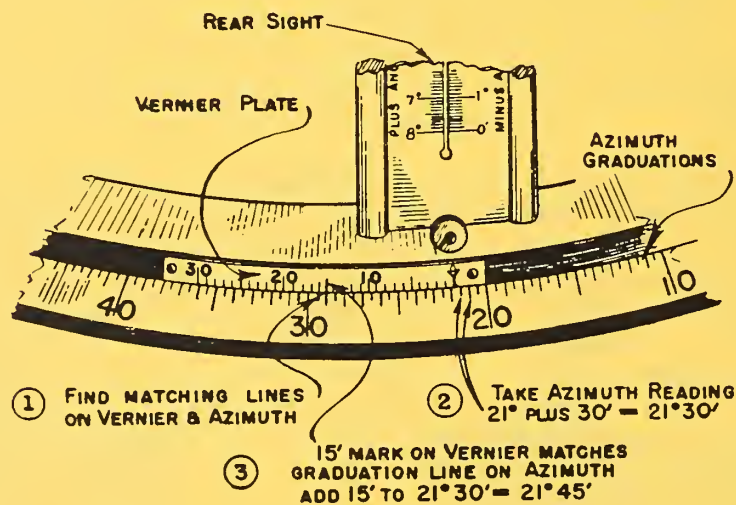

Figure 5.--Vernier plate on Osborne Firefinder.
a. How to Read Horizontal Angle or Azimuth. Proper azimuth readings are made as shown in figure 5. The vernier plate is attached to the movable sighting ring and is used to read the azimuth, not only in degrees, but in fractions of degrees. A degree is divided into smaller divisions known as minutes. There are 60 minutes in a degree. The symbol for degree is $^{\circ}$. Twenty-one degrees and 30 minutes is abbreviated 21° and $30'$. Look at the azimuth graduation in figure 5. Note that 0 rests between $21^{\circ} 30'$ and 22° . In